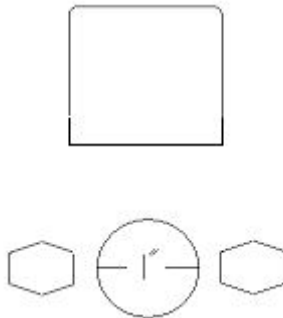

Fig. 1
Step 3: Mark and drill a pilot hole in the center between each factory hex head hole. Next, in each pilot hole, drill a 1" hole using a 1" hole saw. Using the 3/8" threaded clips, slide two clips in each 1" hole outward, so the threaded part is visible through the hex holes. **SEE FIGURE 1.**